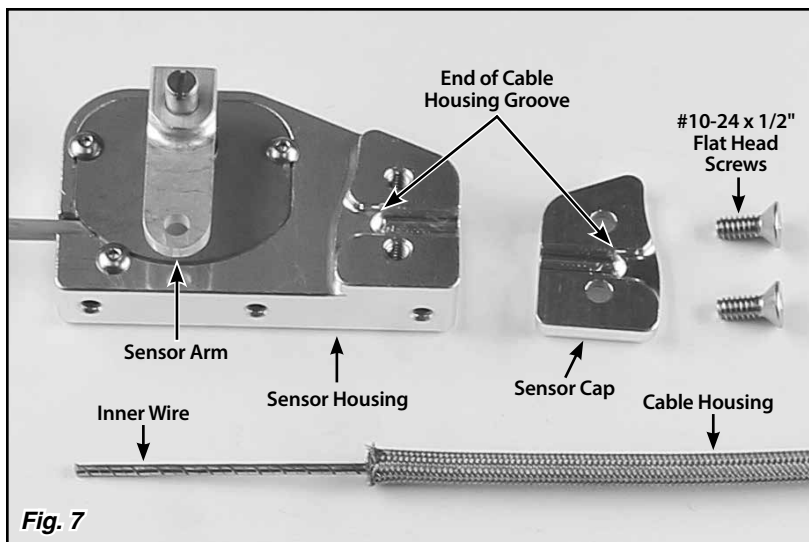
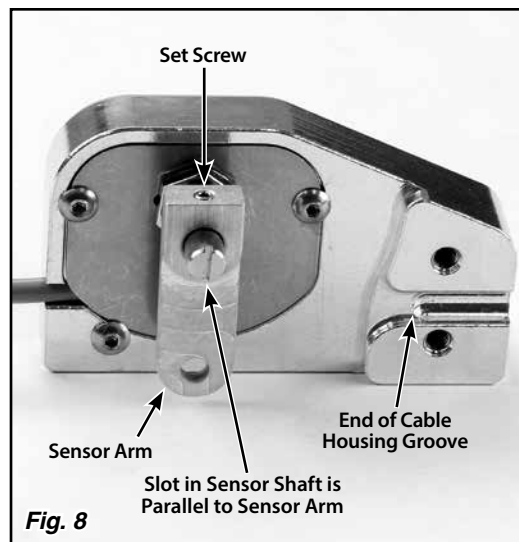

Fig. 7
Fig. 8
Step 2: Remove the sensor cap by removing the two #10-24 x 1/2" flat head screws using a 1/8" Allen wrench, and separate the cable housing from the sensor. **Fig. 7**
Step 3: Make sure the sensor arm is parallel to the slot in the sensor shaft, with the set screw in the top of the sensor arm aligned with the slot. If it is not, loosen the set screw in the top of the sensor arm using a 1/16" Allen wrench, and adjust the position of the sensor arm on the shaft. **Fig. 8**
There is a groove in the sensor housing that the end of the cable housing fits in to. Mark the cable housing at the end of the cable housing groove. Remove the cable housing from the adjustable cable mounting bracket. **Fig. 7 and Fig. 8**